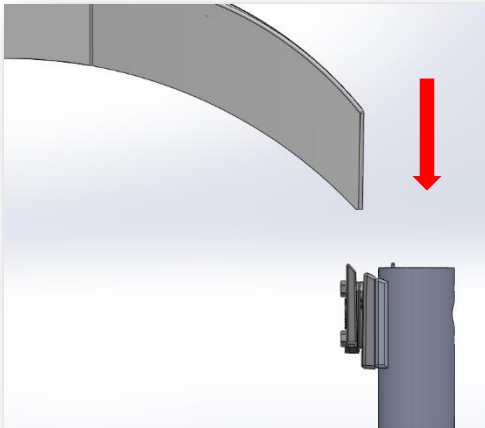
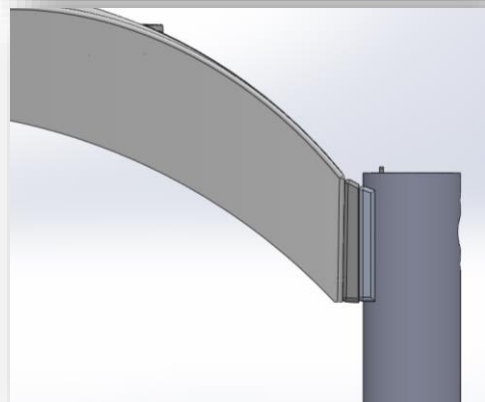

Fig.4
Fig.5
- Slide luminaire Driver Compartment between the Castings (Fig. 4) and tighten the 2 hex head bolts to 19 ft-lb. (Fig.5)